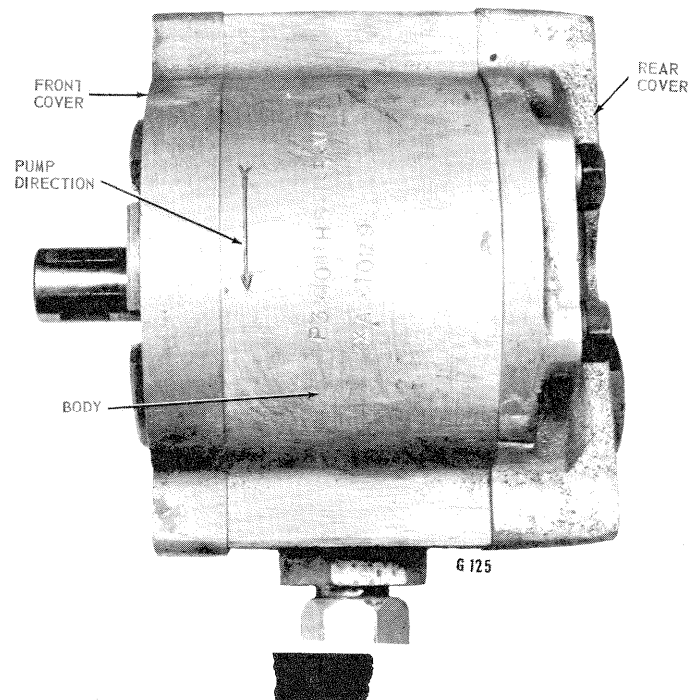

Figure 7
1. Make sure that there are arrows, indicating pump rotation, stamped on the body and both covers. Fig. 7. If not, match mark the body with the two end covers. Remove the drive.